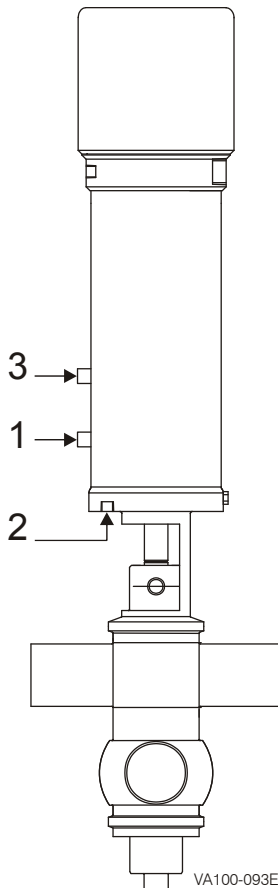

Figure 9 - Solenoid Valve Port Connections
5. Connect the air lines to A, B and C, as shown in Figure 9 on page 15
Up to three air supplies controlled by solenoid valves supply air to the valve actuator (Figure 9).
Perform a test to verify the fully closed fail-safe position. The valve plug feedback proximity switches should be set for the fully opened and fully closed positions of the valve. See Figure 9 on page 16 for port and corresponding chambers.
2. Pressurize chamber 1 to open the valve (Figure 9, page 16). Confirm that the proximity switches conform to Table 4. Verify the switch status on the PLC control system.
6. Vent the air in chamber 2 (Figure 9, page 16) to deactivate the seat lift.
See Figure 9 on page 16 for port and corresponding chambers.